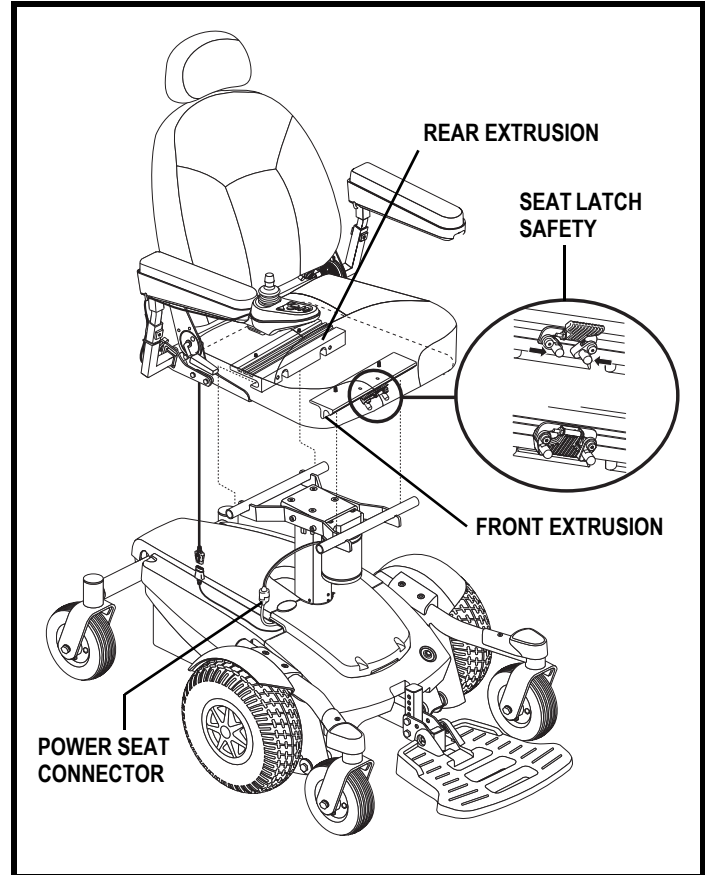

Figure 14. Universal Mounting System on Select 6 with Power Seat
It may be necessary to install the seat either prior to initial operation or after transporting your power chair. Most seats are attached to the power base with the Universal Mounting System (UMS). The UMS consists of universal parts that may be attached to any medium-back or high-back seat, regardless of seat width or seat depth. The two main components are aluminum extrusions mounted to the seat base. These extrusions attach to a pair of trapeze bars that are mounted to the power base. See figure 14.
4. Connect the power seat connector to the power base. See figure 14.